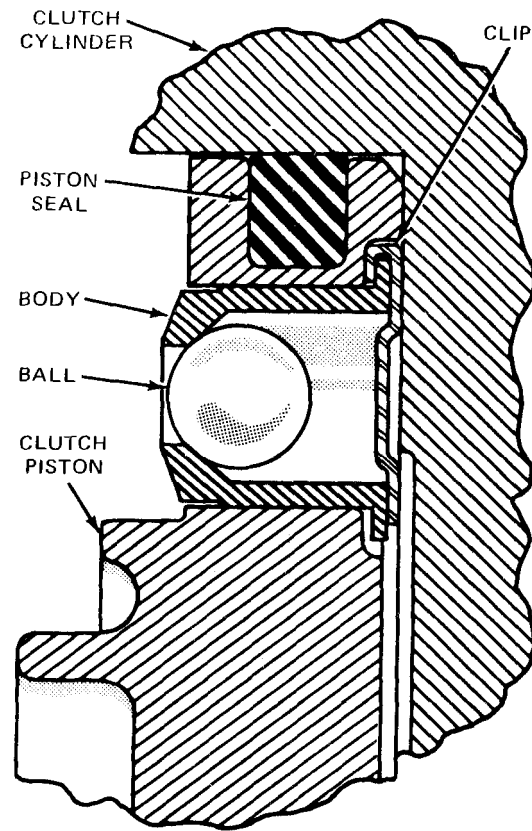

Figure 7-31. Clutch Piston Check Ball.
(1) Inspect the clutch cylinder thrust surfaces, piston bore, and clutch plate serrations for scores or burrs. Minor scores or burrs may be removed with crocus cloth. Replace the clutch cylinder if it is badly scored or damaged.
(2) Check the fluid passages in the clutch cylinder for obstructions. Clean out all fluid passages. Inspect the clutch piston for scores and replace if necessary. Inspect the piston check ball for freedom of movement and proper seating (fig. 7-31).